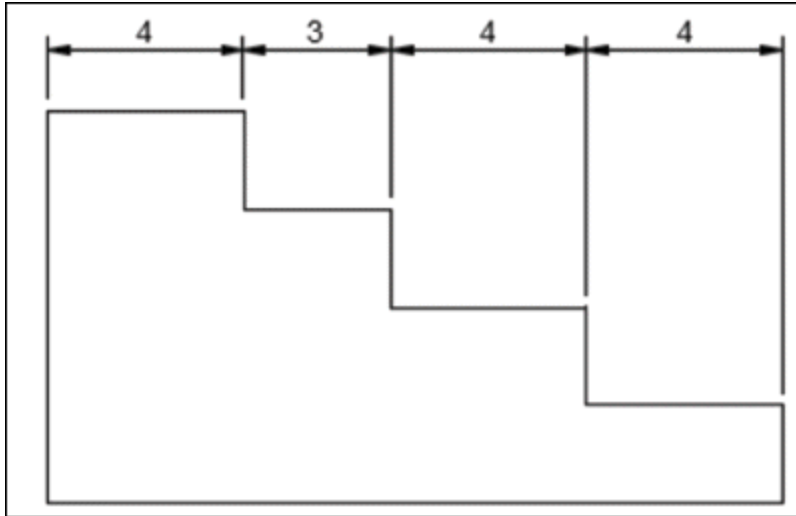

Figure-70. Chain dimensions created
- Click at desired locations to create required dimensions and then press **ENTER** to exit. The dimensions will be created; refer to Figure-70.